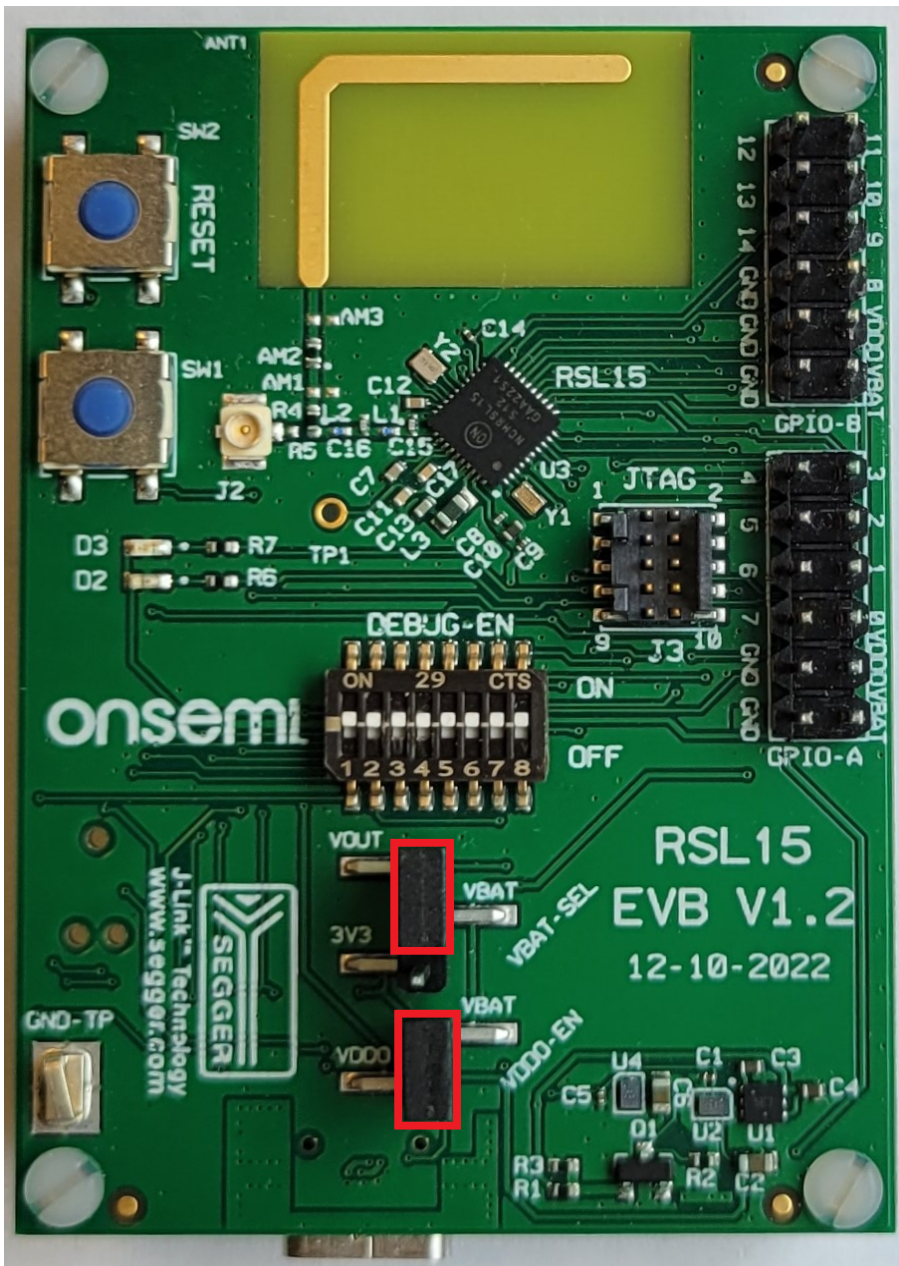

Figure 3. EVB with Default Jumper Configuration
Verify that the RSL15 EVB has the default jumper configuration, which is VBAT and VOUT pins jumpered on the VBAT-SEL header, and VBAT and VDDO pins jumpered on the VDDO-EN header. See the figure "EVB with Default Jumper Configuration" (Figure 3). The red boxes indicate default jumper positions.
**IMPORTANT:** Ensure that all of the DIP switches on the VDDO-EN header and the DEBUG-EN switches are in the default ON position, as shown in the figure "EVB with Default Jumper Configuration" (Figure 3).